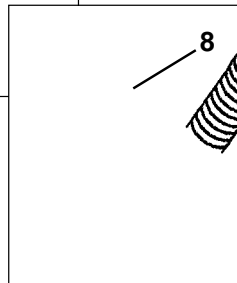

Figure 2
1. With the canister main power switch in the OFF position, and the power control slider on the handle (#8, figure 2) in the OFF position, pull the power cord out from the base of the canister (see canister owner's manual). The power cord should be unwound from the cable reel at least two thirds of its length.
4. Slide the Power Control Slider (#8, figure 2) to the ON position (the slider will "click" when it is pushed out of the OFF position). It will then slide freely between 0 suction and MAX suction. Set the slider to the suction desired. Release the foot pedal (#5, figure 3).
#8, Figure 2
When the canister's main power switch is in the ON position, you may turn the power head off and on with the power control slider (#8, figure 2). To turn the power head off using the power control slider, pull the slider to 0 suction, then continue pulling the slider up until it "clicks" into the OFF position.